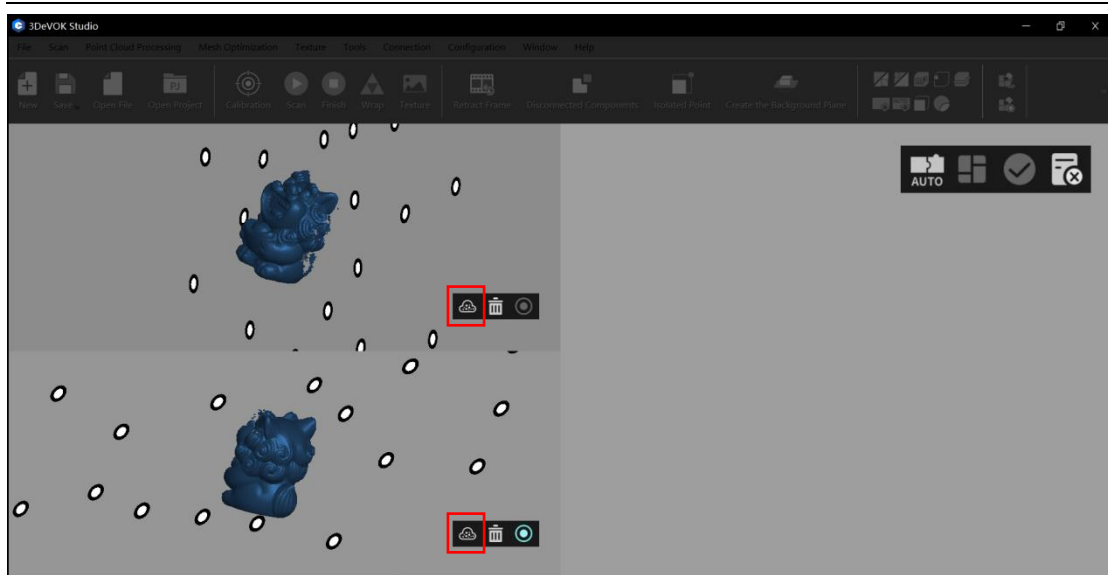

Figure 9-2 Import Point Cloud Projects in Model Stitching (Features)
3. Import the target point cloud projects (Project A and Project B) into the dual-view workspace by clicking the import button (highlighted in red frame), which is shown in Figure 9-2.